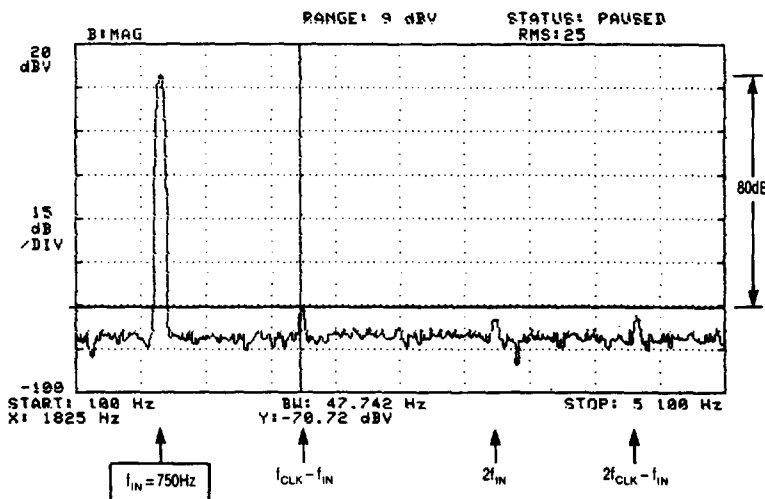

Figure 5A. Output Voltage Spectrum of 1/2 LTC1051 Operating as an Inverting Amplifier with Gain of 10, and Amplifying a 750Hz, 800mV Input AC Signal.
2. If we arbitrarily accept that “aliasing” occurs when output alias signals reach an amplitude of 0.01% or more of the output signal, then: The approximate minimum frequency of an AC input signal which will cause aliasing is equal to the internal clock frequency multiplied by the square root of the op amp feedback factor. For instance, with closed loop gain of -10 , the feedback factor is $1/11$, and if $f_{CLK} = 2.6\text{kHz}$, alias signals can be detected when the frequency of the input signal exceeds 750Hz to 800Hz, Figure 5A.